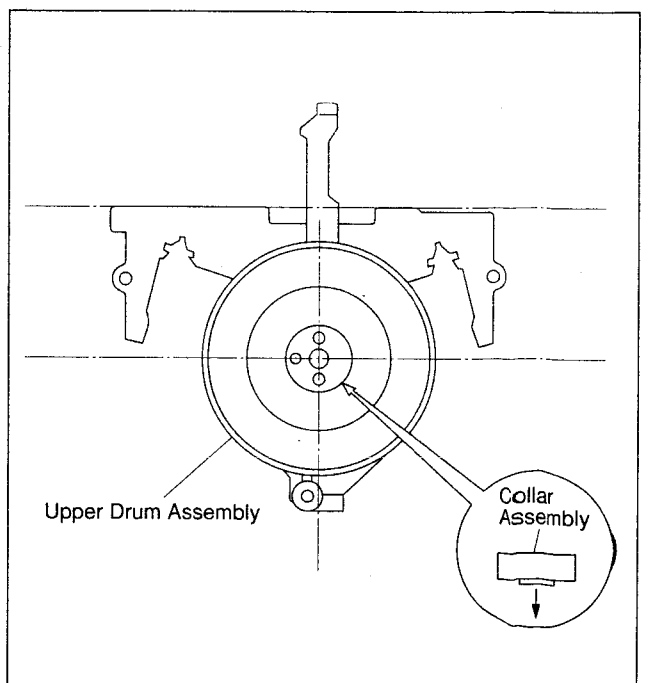

Fig. 2-5-27
- (3) Determine the positioning of the collar assembly by taking care of its vertical alignment as shown in Fig. 2-5-27.